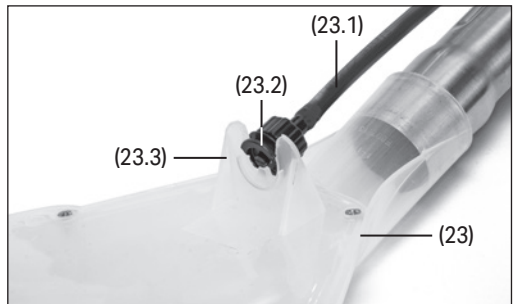

Fig. 21
10.4 Attaching Large Fluid Nozzle (Fig. 21 & Fig.22)
(Fig. 21 & Fig.22)